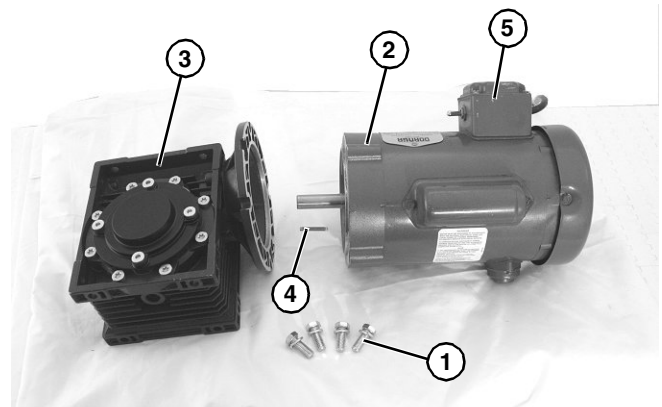

Figure 29
4. Apply anti-seize to motor shaft before assembling to gearbox. With key (**Figure 29, item 4**) in keyway, slide motor (**Figure 29, item 2**) and gear reducer (**Figure 29, item 3**) together. Install screws (**Figure 29, item 1**) and tighten.
4. Remove four (4) screws (**Figure 29, item 1**). Detach motor (**Figure 29, item 2**) from gear reducer (**Figure 29, item 3**). Retain motor output shaft key (**Figure 29, item 4**).
5. With key (**Figure 29, item 4**) in keyway, slide motor (**Figure 29, item 2**) and gear reducer (**Figure 29, item 3**) together, noting where position of switch (**Figure 29, item 5**) will be during installation on conveyor.
6. Install screws (**Figure 29, item 1**) and tighten to 60 in-lb (7 Nm).